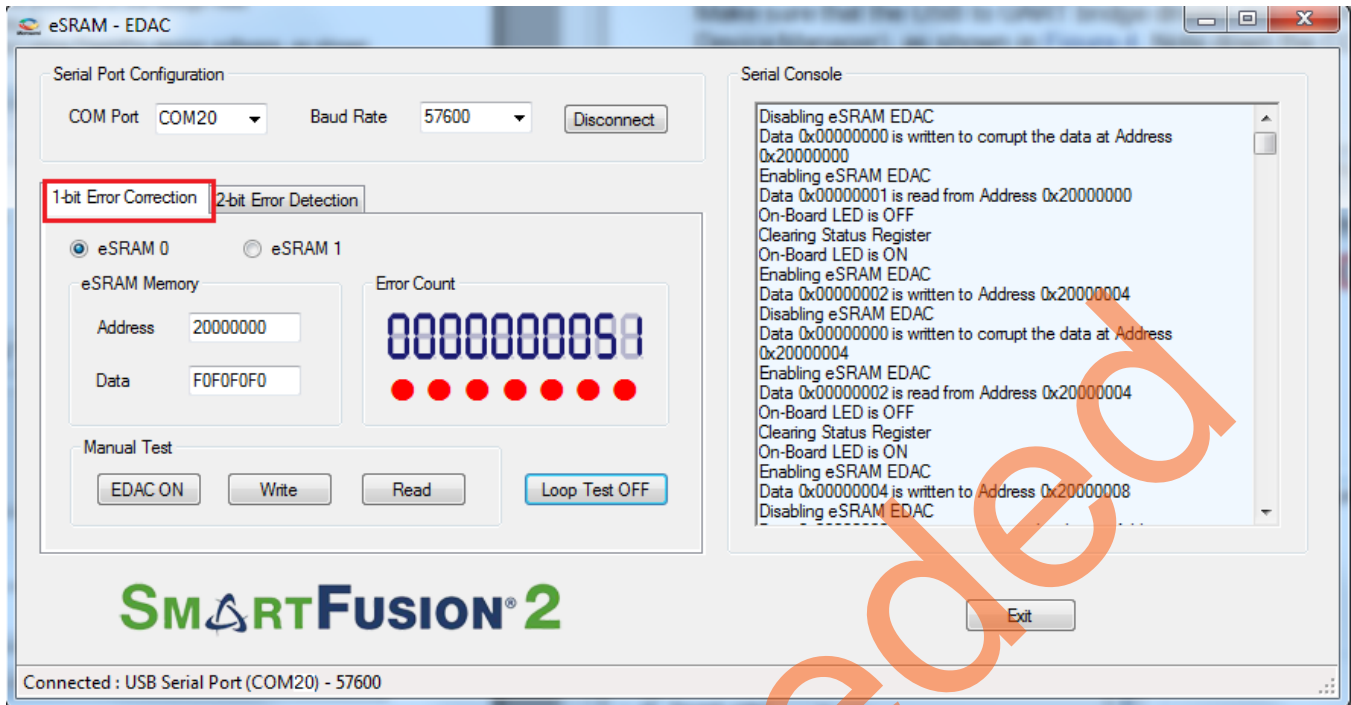
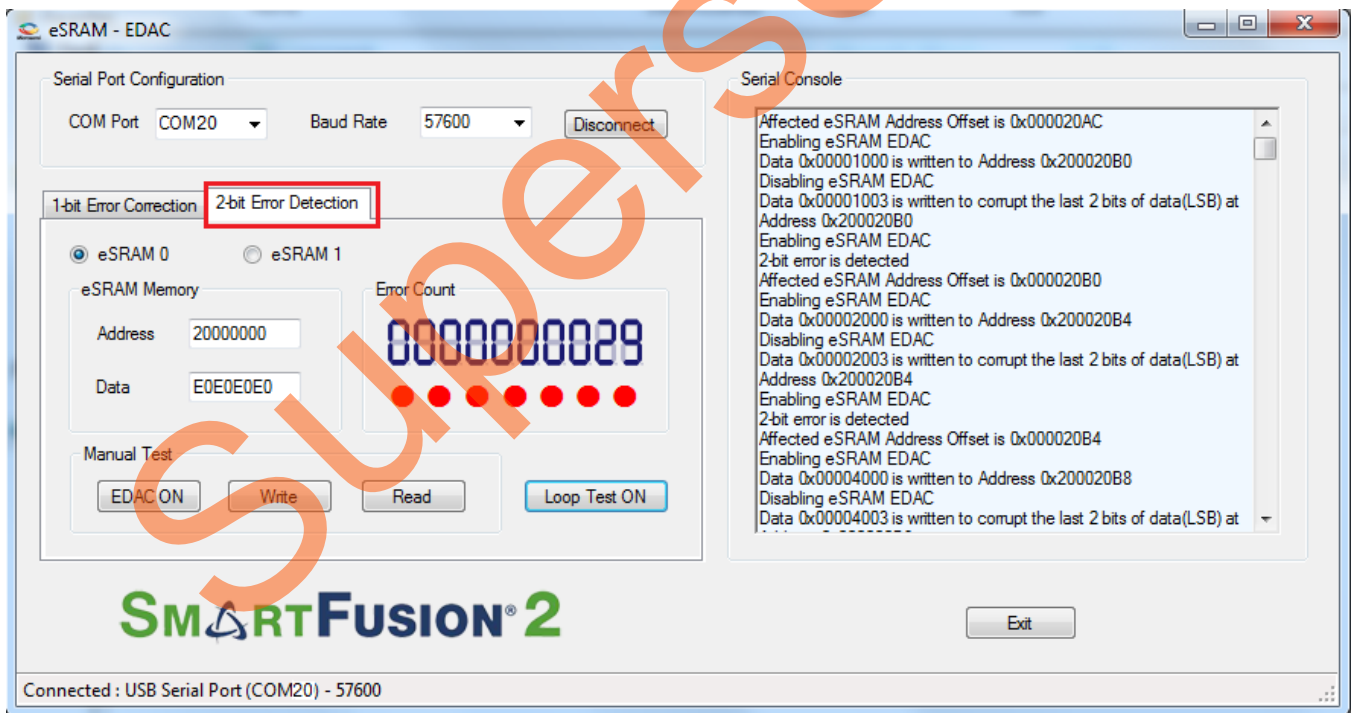

Figure 8. 1-bit Error Correction Tab
Figure 9. 2-bit Error Detection Tab
8. Select the 1-bit **Error Correction** tab or 2-bit **Error Detection** tab, as shown in Figure 8 and Figure 9.